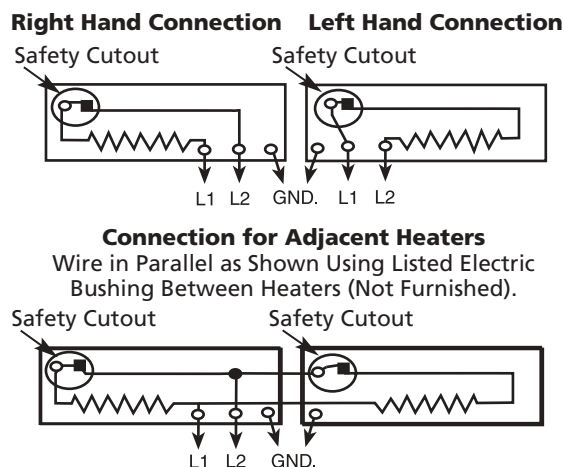

Figure 6
- Wire heater according to Figure 6. Reattach the wireway cover using the two screws.
- After making sure the electrical power coming to the heater is turned off at main switch panel follow the desired wiring diagram, as shown in Figure 6, to connect the power supply to the heater using approved wire nuts.